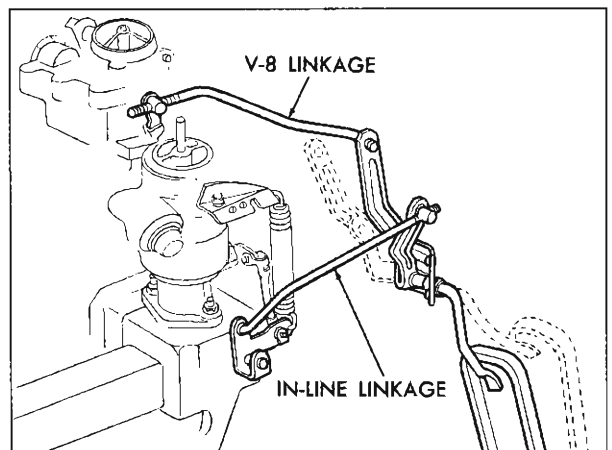

Fig. 11—Accelerator Linkage
1. Disconnect accelerator rod at carburetor throttle lever (fig. 11).